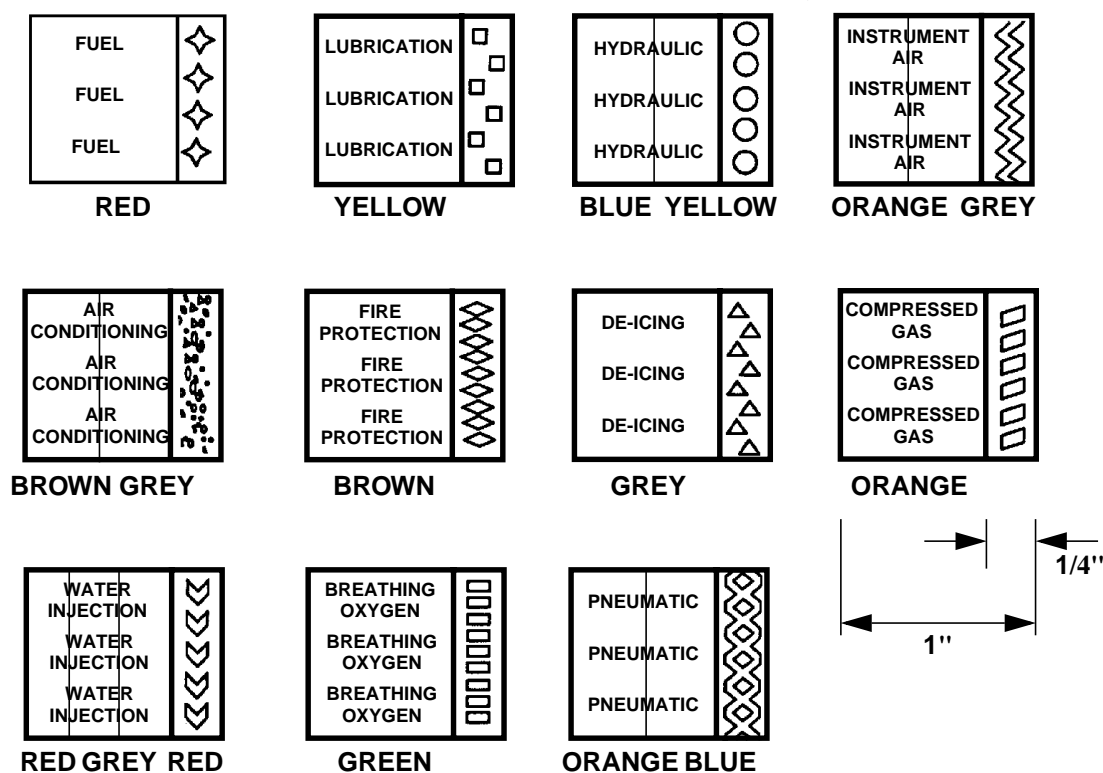
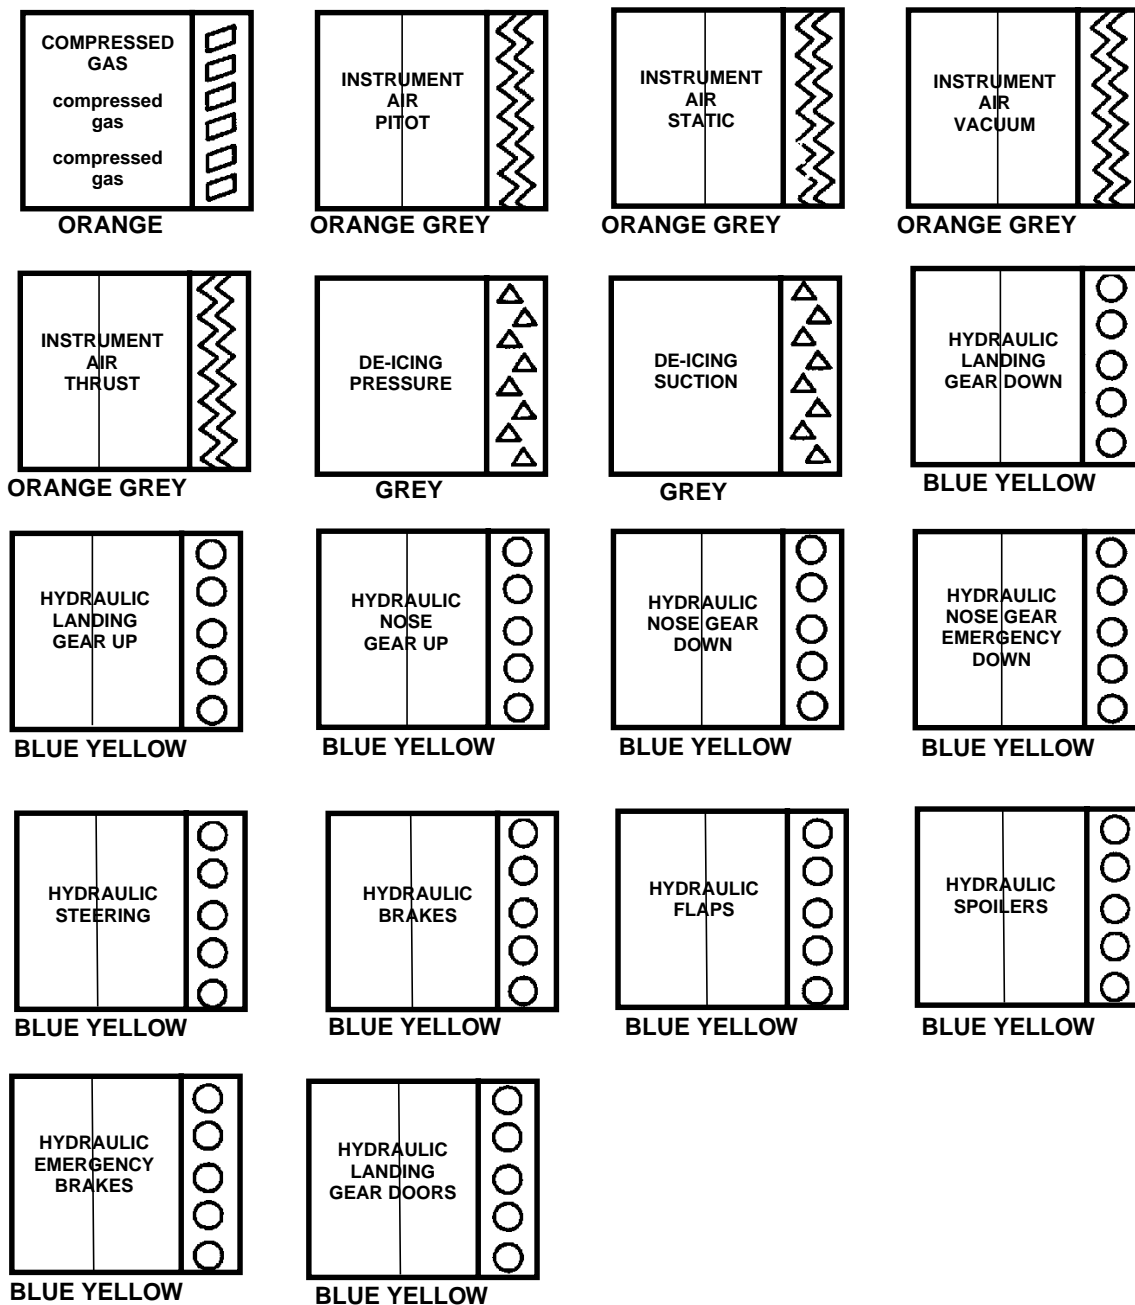
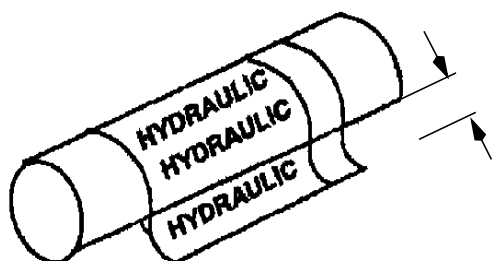

Figure 1 - Fluid System Identification Tapes
Figure 3 - Line Content and Function Identification Tapes
**Figure 5 - Warning Symbol Tape**
- 5.1.2 Identification tape dimensions, colour marking, wording and symbols must be according to Figure 1, Figure 3, Figure 4 and Figure 5. Generally accepted abbreviations may be used instead of the wording shown in Figure 1 and Figure 3.
- 5.2.1 Identify fluid systems using identification tapes as shown in Figure 1. Identify emergency air lines as COMPRESSED GAS lines. Fluid lines that do not belong to any of the systems shown in Figure 1 must be identified with 1" wide white tape with black lettering covered with clear solvent resistant polyester tape.
- 5.2.2 Identify bulkhead fittings on the firewall by applying paint bands or identification tape according to Figure 1 (for the system to which they belong) adjacent to the fitting on the forward side of the firewall.
- Identify line content by applying coloured tape that has the line content or function and the system description printed on it (see Figure 3).
- 5.5.1 On lines containing fluids that are dangerous to personnel, in addition to the above requirements, identify such lines with warning symbol tape (see Figure 5). Compressed gas, oxygen, fire protection or lines continuously pressurized over 30 psi are considered to be dangerous in content.